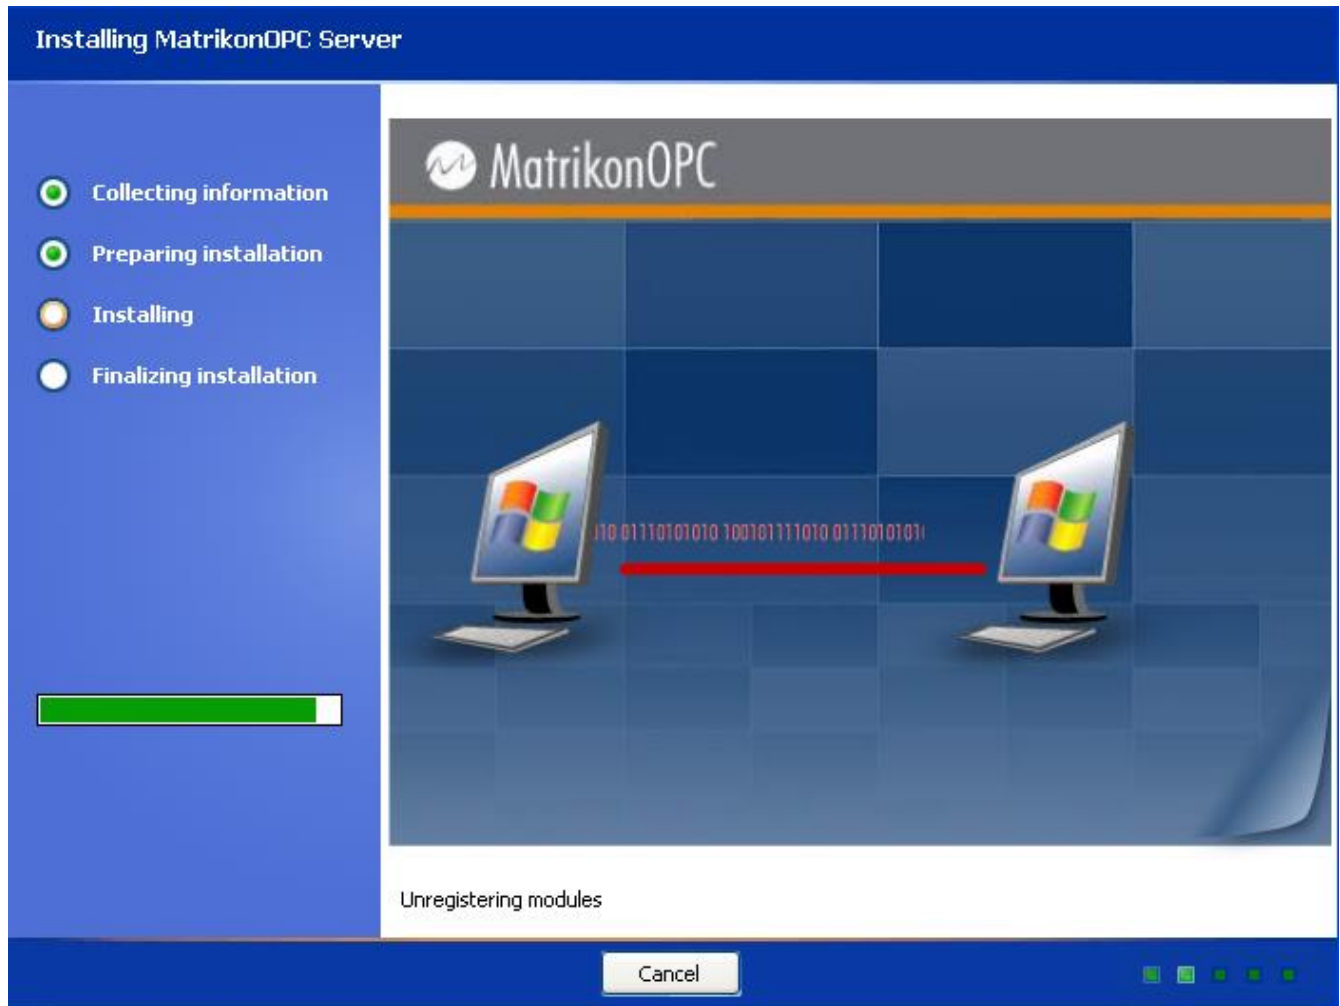

Figure 75 - Installing MatrikonOPC Server Screen
19. Click on the **Next** button. The **Installing MatrikonOPC Server for IEC 61850/61400-25** screen (Figure 75) appears, installation begins, and the product files are copied to the computer.